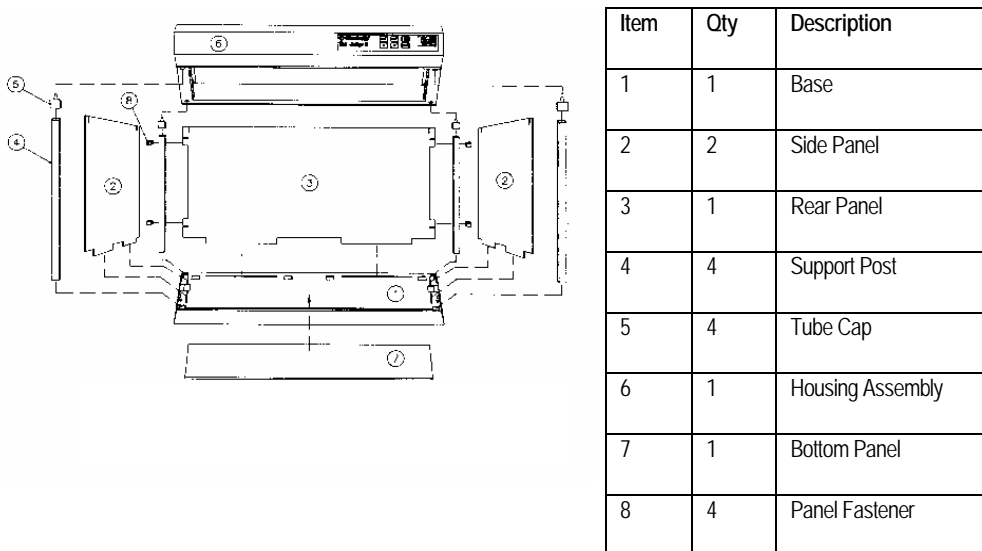
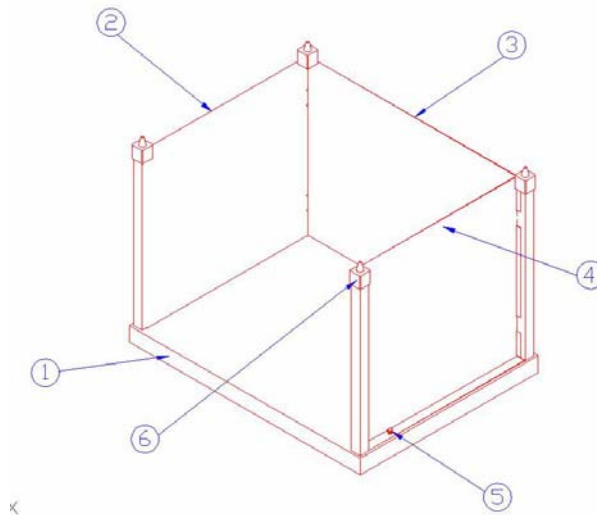
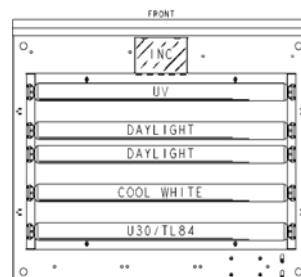

Figure 1. Judge II Assembly Drawing
Figure 2. Judge II-S Assembly Drawing
Figure 3. Lamp Replacement
Refer to Figure 1 as you do the following:
1. Assemble The Judge II beginning at the left side of the unit and work clockwise to seat and lock the left Side Panel (2), Rear Panel (3), and right Side Panel (2) with Support Posts (4). You will finish the assembly by placing the Bottom Panel (7) on top of the Base (1) and seat the Housing Assembly (6) on the Tube Caps (5) located at the top of each Support Post. (In the past these panels were matt on one side and high gloss on the other. The matt side must go to the inside of the booth for all plastic panels.)
2. Remove from storage and identify all items Figure 1. Note the order in which these items are removed. To pack the unit, you will have to replace each item accordingly.
9. Place a Tube Cap in each of the four (4) corners of the booth by sliding it into the notch(es) located at the top of each panel. Press the Tube Cap down to seat it.
10. Insert all fluorescent bulbs into the Housing Assembly using Figure 3 below. (The lamps are already installed when shipped.) The INC, Tungsten Halogen lamp should not be touched with bare fingers because oil from the skin will reduce lamp life.
1. Remove from storage and identify all items Figure 2. Note the order in which these items are removed. To pack the unit, you will have to replace each item accordingly.
6. Place a Tube Cap in each of the four (4) corners of the booth by sliding it into the notch(es) located at the top of each panel. Press the Tube Cap down to seat it.
7. Insert all fluorescent bulbs into the Housing Assembly using Figure 3 below.
3. Refer to Figure 3 below to follow the replacement configuration. Replace *all* lamps. NOTE: The INC, Tungsten Halogen lamp should not be touched with bare fingers because oil from the skin will reduce lamp life.